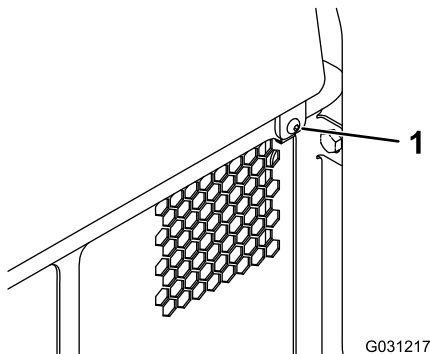

Figure 38
1. Remove the fastener (Figure 38).
2. Lift the rear-access cover up to access the internal components (Figure 38).